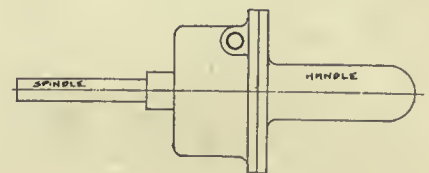
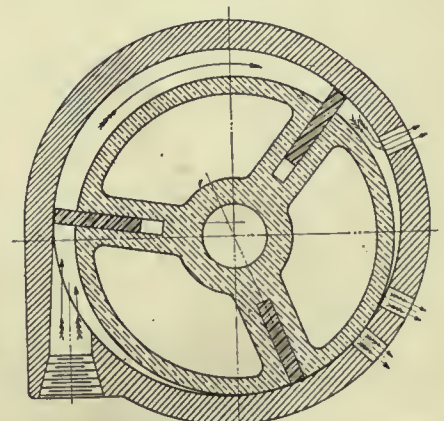

Fig. 3.—Small Air Drill.
Fig. 4.—Cross Sectional View of Small Air Drill.
C. Trumper, the toolmaker, has made a very neat little air drill which has been found very useful for drilling small holes. This is shown in Fig. 3, and the construction clearly shown in the cross-sectional view, Fig. 4. It operates on the same principle as that used in several recent attempts at producing a high speed rotary steam engine. The shaft is placed eccentrically leaving a space on one side. Air impinges against protruding steel blades in the brass rotor, causing it to revolve at an extremely high